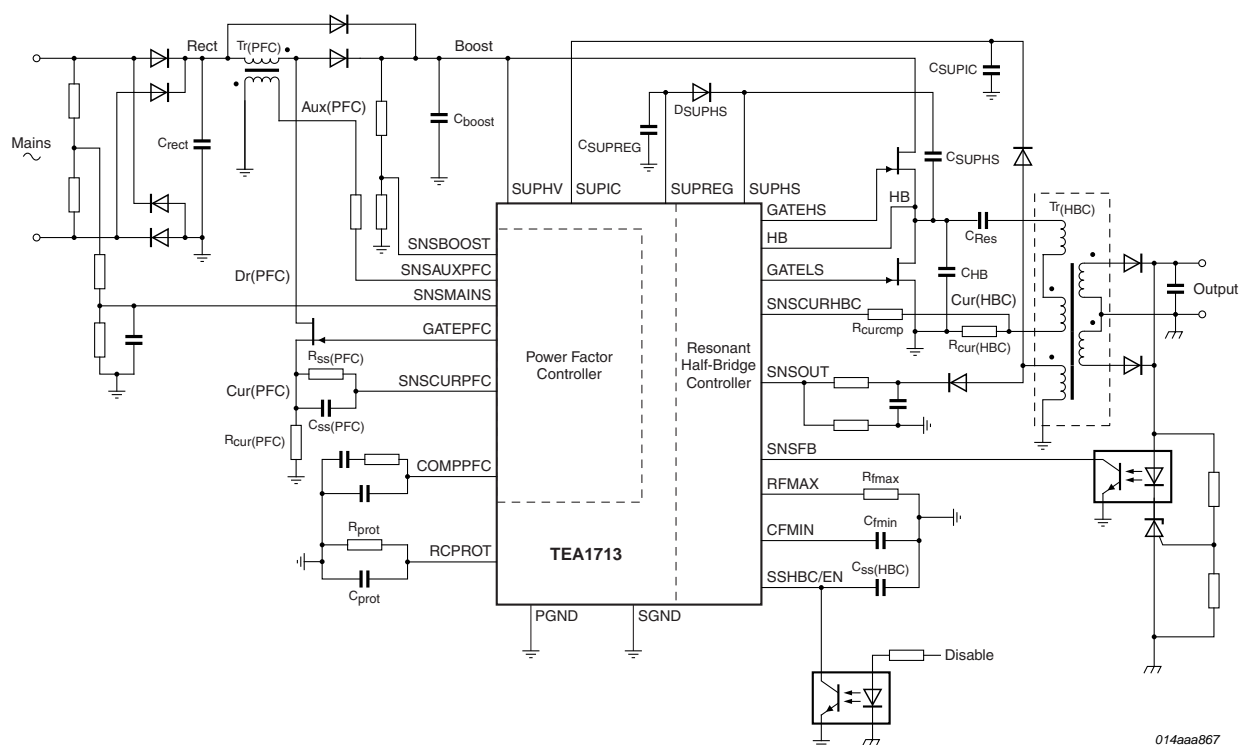

Fig 19. Application diagram of TEA1713
- [3] For a typical application with a compensation network on pin COMPPFC, like the example in Figure 19.